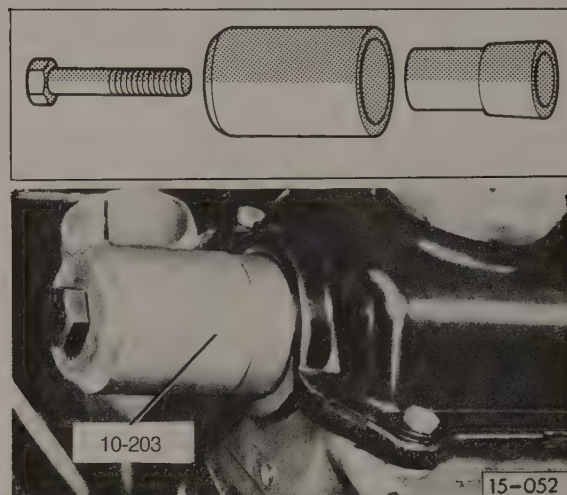

Fig. 4-7. Camshaft oil seal being installed. Inset shows parts of Volkswagen special tool no. 10-203
- Lightly oil the seal lip and camshaft's sealing surface. Fit the seal into position, and carefully drive it into place until it is flush with the front of the cylinder head. Use care not to distort the seal as it is installed. For best results, use a seal driver such as Volkswagen special tool no. 10-203, shown in Fig. 4-7.